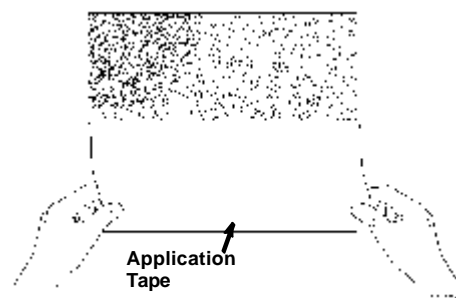

Figure 4. Removing Application Tape
- Remove the application tape from the film by pulling it back upon itself at a 180 degree angle, see figure 4. It is acceptable to tear the premask into manageable sized pieces.
13. Remove the application tape from the film by pulling it back on itself at 180 degree angle, see figure 4 on page 2.